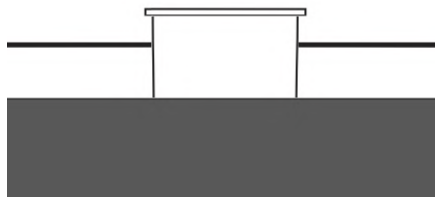

Figure 10
Do not fill the tank to the brim. Fill with gasoline up to the bottom of the tank strainer. Always leave approx. 1/3 of the fuel tank unfilled. (Fig.10)
2. Turn the motor switch to the "ON" position. (Fig. 10)